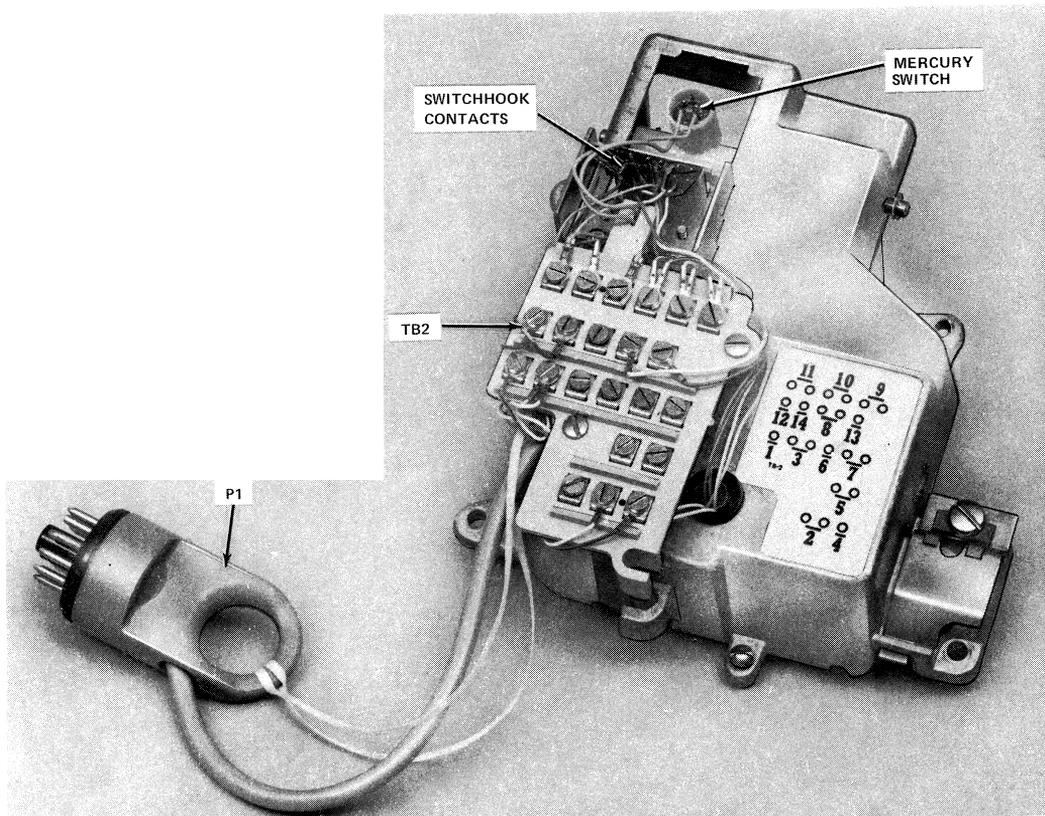

Fig. 7—Typical Coin Dial Unit
- (1) **B Relay**—The B relay contacts close during totalizer readout and place a capacitor across the speech circuit to prevent the customer from hearing coin signals.
- (2) **Coin Signal Oscillator**—Generates a dual frequency signal, controlled by totalizer readout indicating to the ACTS receiver or operator what value of coin has been deposited.
- (3) **A Relay**—Provides ground lifting in DTF mode and controls totalizer readout in CF mode.
**E. Coin Dial Unit (Fig. 7)**
2.13 The dial and housing assembly contains the switchhook contacts and rotary or TOUCH-TONE dial. The switchhook contacts are operated as the handset is lifted. Contacts SH1, SH2, and SH4 perform the same functions in both CF and DTF modes. SH3 differs as described in (3).